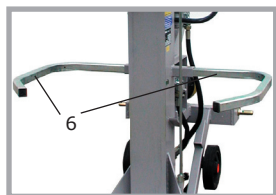

Fig. 6
On each side of the splitter vertical beam there are two log fenders (6) specifically designed to avoid tipping over of the log sticks while splitting is being completed (Fig.6).